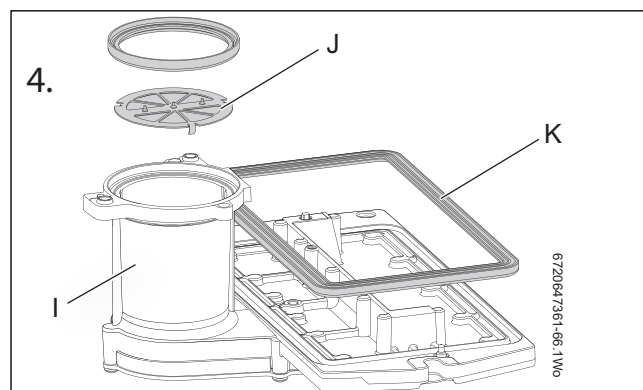

Fig. 83 Diaphragm
- ▶ Remove the burner (H).
- ▶ Ensure that a new seal (K) is used, refer to fig. 83.